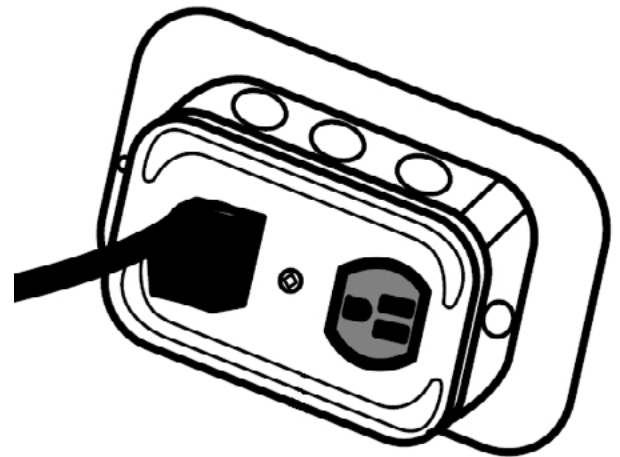

Figure: 10
Step 7: Insert 3-Prong Plug into Junction Box. (Figure: 10)